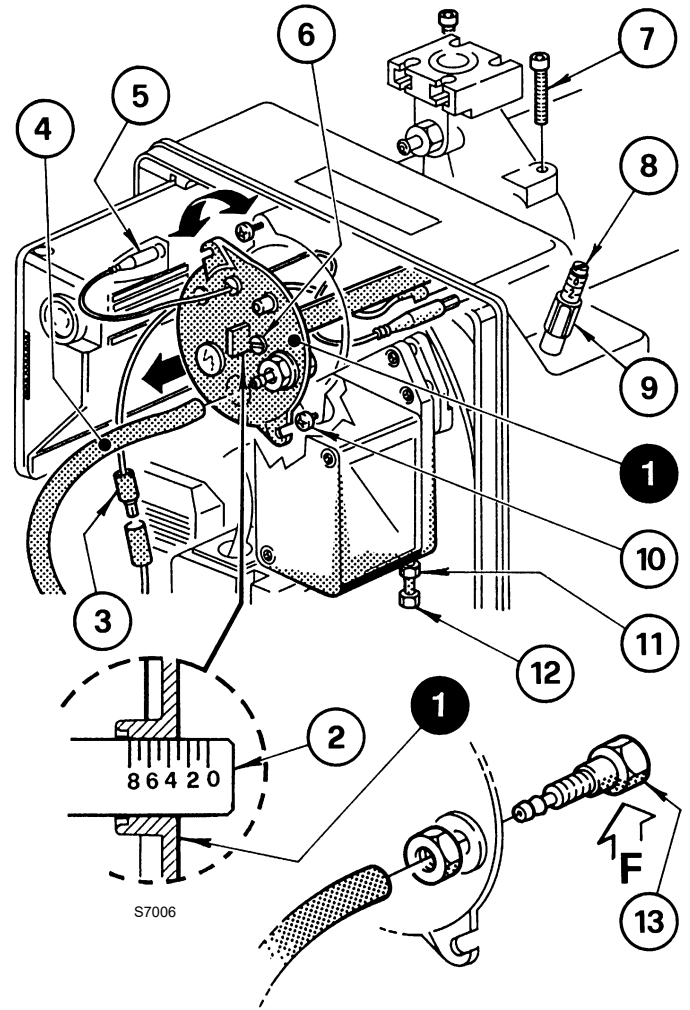

Fig. 12
This is carried out by turning the adjustment screw 6)(Fig. 12) clockwise or anti-clockwise until the notch on the regulating rod 2) lines up with the outside surface of the head assembly 1).
In Fig. 12 the head regulating rod is set to notch 3.
- disconnect the connections 3) and 5)(Fig. 12);
- remove the tube 4) and loosen the screws 10)(Fig. 12);
- unscrew and remove the screws 7), remove the head holder assembly 1)(Fig. 12) slight rotation to the right.
Take care not to change the setting position on the elbow-bracket 2)(Fig. 12) when dismantling.
Reverse the procedure above to put back the head assembly 1)(Fig. 12) as it was before.
Tighten the screws 7)(Fig. 12), without fully locking them. Lock them with a tightening torque of 3 - 4 Nm.
If the pressure test point 13)(Fig. 12) should become slack accidentally, we recommend fixing it correctly ensuring that the hole (F) in the head assembly 1)(Fig. 12) is facing downwards.